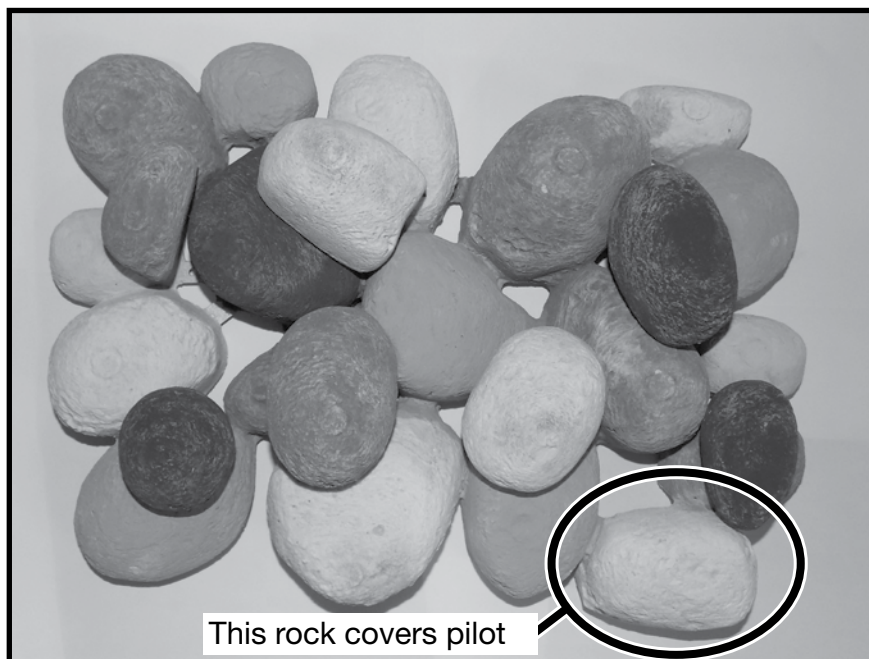

Figure 21: Rock set.
21. Remove pebble assembly from packaging by placing hand on top and tipping upside down. Note that the rock in the lower left is hollow underneath and will fit over top of the pilot assembly (Figure 21).